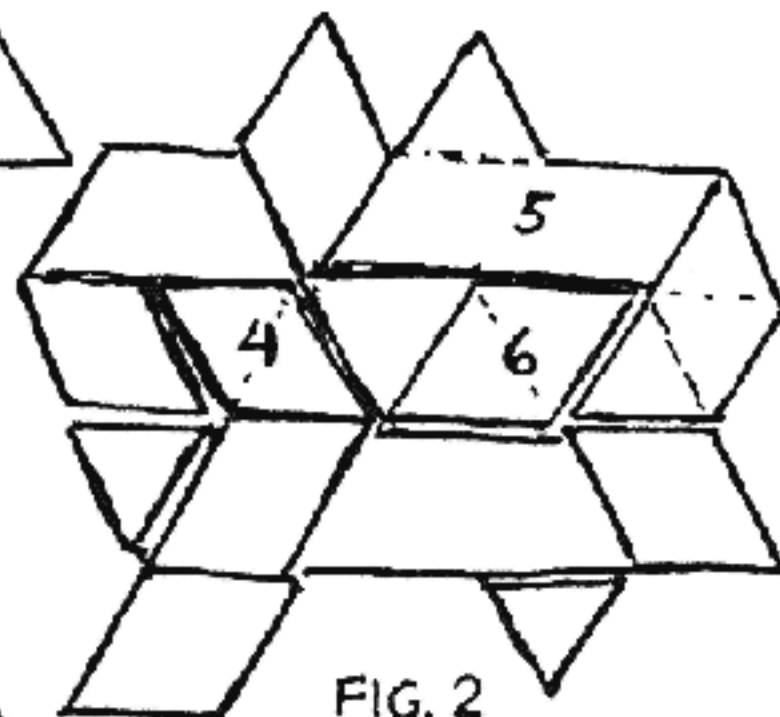

FIG. 2
as shown in Fig. 2.
2. Insert piece D vertically, hook augmented piece Y around it and then insert piece N vertically from below as shown in Fig. 2.